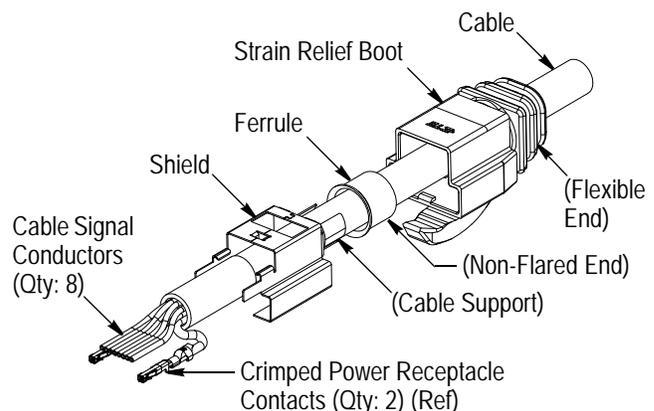

Figure 4
3. Install the strain relief boot, ferrule, and plug connector shield onto the cable in the orientation shown in Figure 4.